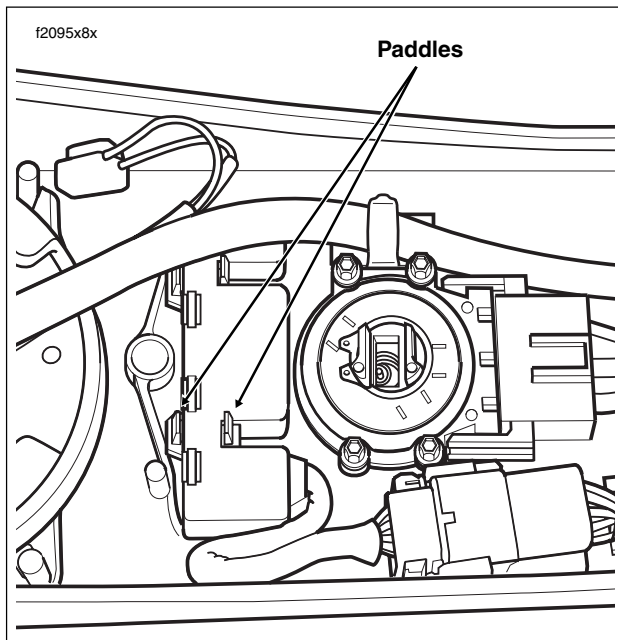

Figure 8-118. Release Paddles to Free Indicator Lights Assembly (FLHR/C)
- b. Using thumb and index finger, squeeze front and rear paddles on same side of assembly while rotating screwdriver. See Figure 8-118.